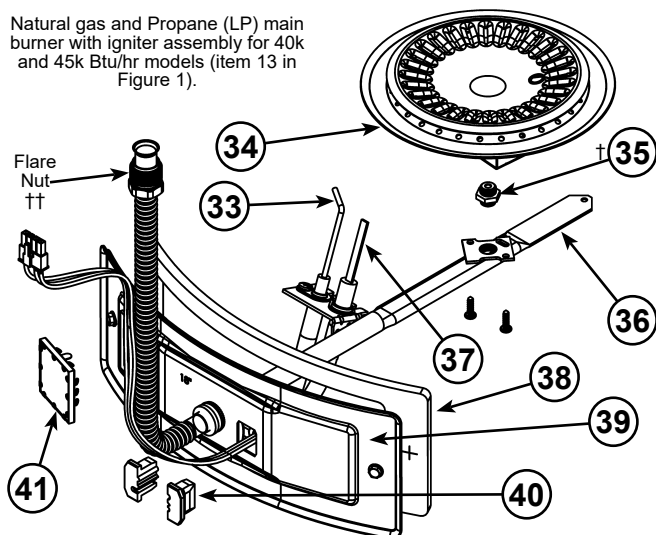
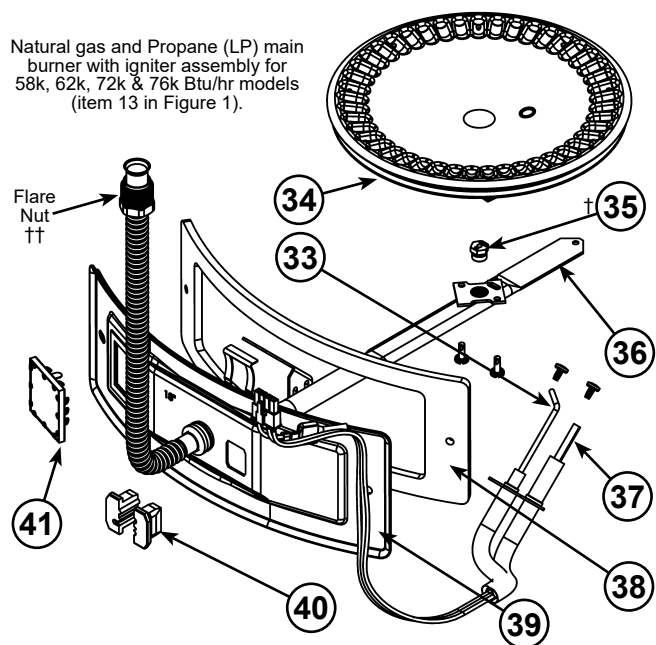

Figure 60.
Figure 61.
- 13 Manifold Door Assembly (behind outer door) (see Figure 3 & Figure 4) (see also Figure 60 & Figure 61)
- 33 Flame Sensor Rod (see Figure 3 & Figure 4) (see also Figure 60 & Figure 61)
- 34 Sheet Metal Burner (see Figure 3 & Figure 4) (see also Figure 60 & Figure 61)
- 35 Gas Orifice (see Figure 3 & Figure 4) (see also Figure 60 & Figure 61)
- 36 Gas Manifold (see Figure 3 & Figure 4) (see also Figure 60 & Figure 61)
- 37 Hot-Surface Igniter (see Figure 3 & Figure 4) (see also Figure 60 & Figure 61)
- 38 Manifold Door Gasket (see Figure 3 & Figure 4) (see also Figure 60 & Figure 61)
- 39 Manifold Door (see Figure 3 & Figure 4) (see also Figure 60 & Figure 61)
- 40 Two Piece Grommet With Clip (see Figure 3 & Figure 4) (see also Figure 60 & Figure 61)
- 41 Viewport (see Figure 3 & Figure 4) (see also Figure 60 & Figure 61)